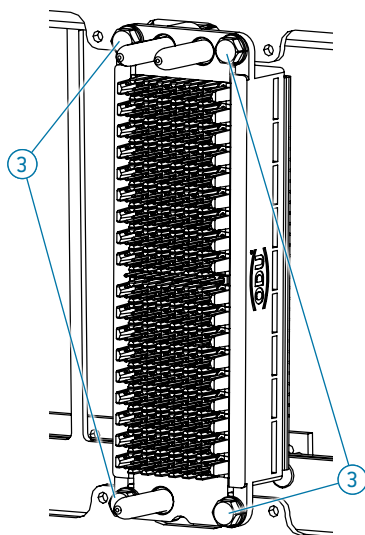

Fig. 72
- ▶ Make sure the guiding pins (4) (5) on the connector are facing the mating direction.
- ▶ Position the edge with the two guiding pins (4) at the top. Take note of the slot label at the top.
- ▶ Align the holes in the connector (7) with the threaded holes in the adapter (ITA) (6).
- ▶ Use the four screws (3) to secure the connector. Take note of the specified tightening torque.
- ▶ After assembly, the connector (1) must be mounted in a floating position (Fig. 72).